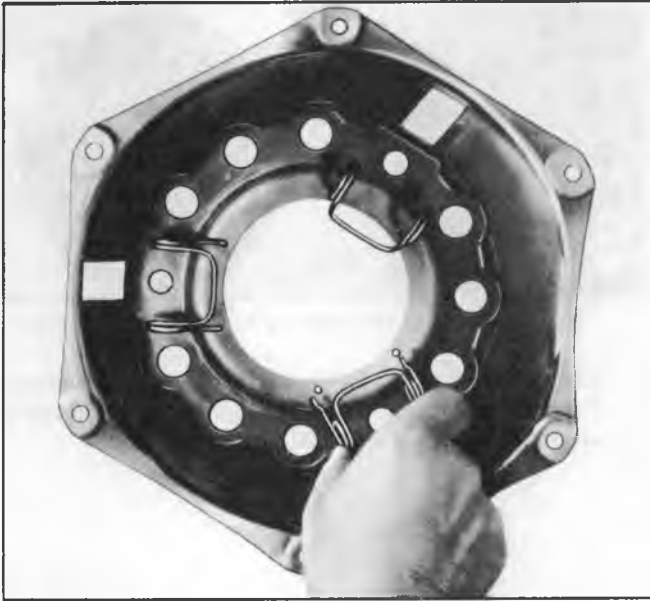

Fig. 9E—Installing Anti-Rattle Spring
7. Assemble anti-rattle springs in cover as shown in Figure 9E. The spring to the left is in operating position.